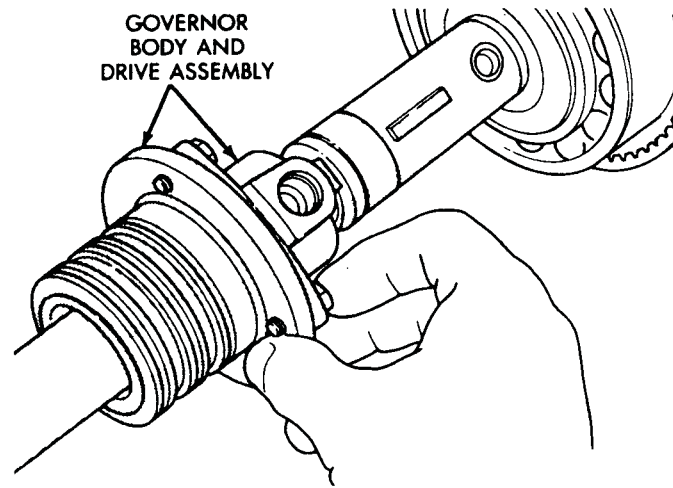

Fig. 18 Governor Body And Drive Assembly Removal
(3) Remove governor body and drive as assembly (Fig. 18). Set assembly aside for disassembly, inspection, and overhaul. Refer to Governor Overhaul procedures.